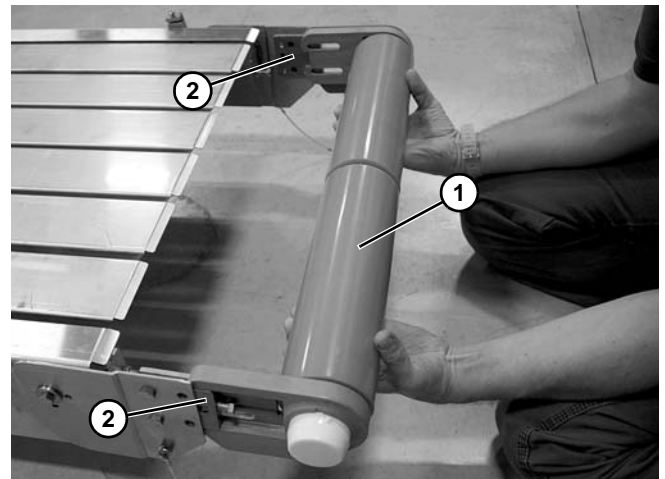

Figure 78
4. Slide the idler spindle assembly (Figure 78, item 1) off the pivot tail blocks (Figure 78, item 2).